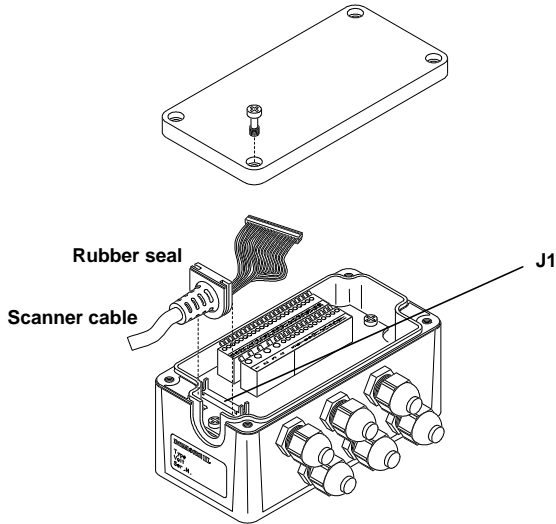

Figure 2.11 - Scanner cable connections to the junction box
- 4) After wiring the junction box and while the scanner is unplugged from the power, place the Scanner cable so that the rubber seal fits into the cutout in the housing of the junction box and plug the 24-pin connector into connector J1 on the PCB inside the junction box as shown in Figure 2.11.